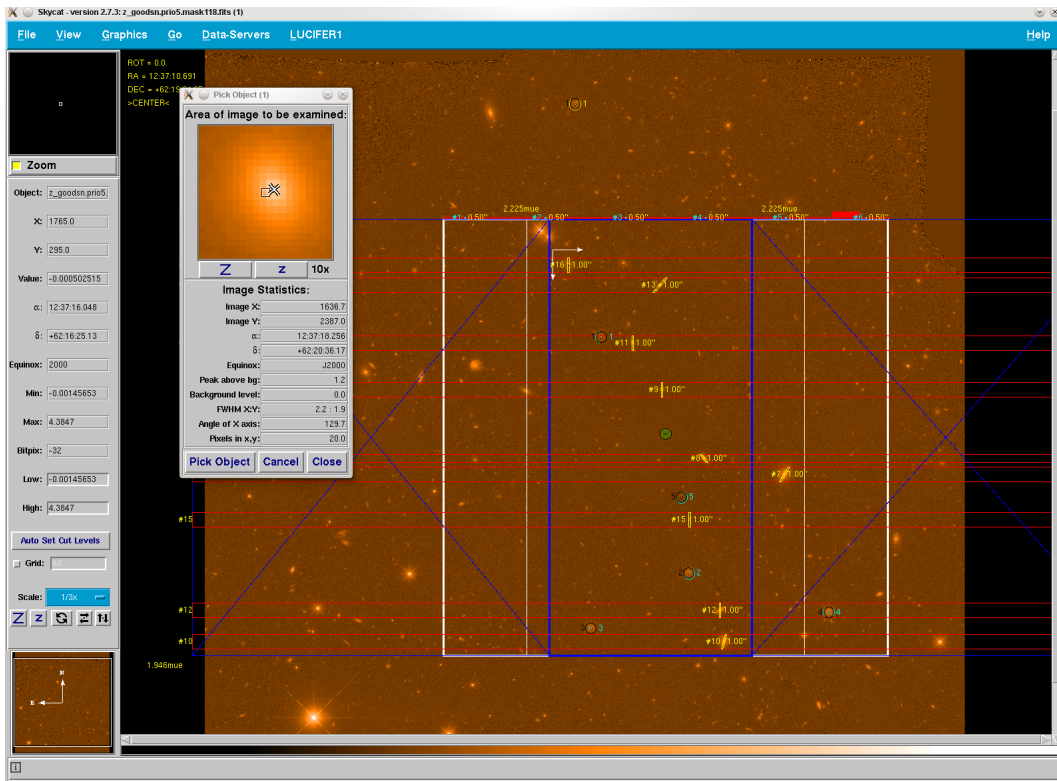

Figure 3.2: Screen shot of the slit generation process using `Center Slit`. The mask has been shifted, but not rotated relative to the image.
**Remark 1:** Presently (no adaptive optics available, seeing limited operation) 1 arcsec wide slits should be used to minimize slit losses by seeing. In case a single LUCIFER pre-image (no mosaic) is used, the mask is centered on the image, and the slits are positioned inside the white rectangle indicating low defocus (see Fig. 3.2), no distortion correction is required.
Fig. 3.2 depicts a typical situation for creating slits using the `Center Slit` option. The FITS-image is the same as in Fig. 3.1, but the mask has been shifted off-center, and the image has been magnified by pressing the `Z` button above the pan window in the lower left corner of the SkyCat window. The cyan circles numbered 1 to 5 are centered on the reference targets. The yellow circle number 1 is centered on the guide star.
Slit parameters can be modified by left clicking on the slit width label next to the slit image. In this case an entry window appears which lists the slit width and length in arcsec, the slit tilt in degrees, and the slit center position in mm from the mask center. When the `Enter` button in this entry window is pressed for the first time (even without changing parameters) two white arrows spanning a coordinate system are displayed, like the ones next to slit number 16 in Fig. 3.2. Their lengths correspond to 10 mm on the mask (in the telescope image plane), the arrows point towards the positive x- (horizontal line) and y-direction (vertical line). The lines should be helpful for changing the slit center position. The lines are deleted if the parameters of another slit are modified or if the image is redrawn (e.g. when zooming in or out).
The central green circle on the mask image (Fig. 3.2) has the function of handling the mask as a whole. In the following, the 2 mouse buttons (left, middle) are designated `B1` and `B2`. Their functions when clicking on the central green circle are: